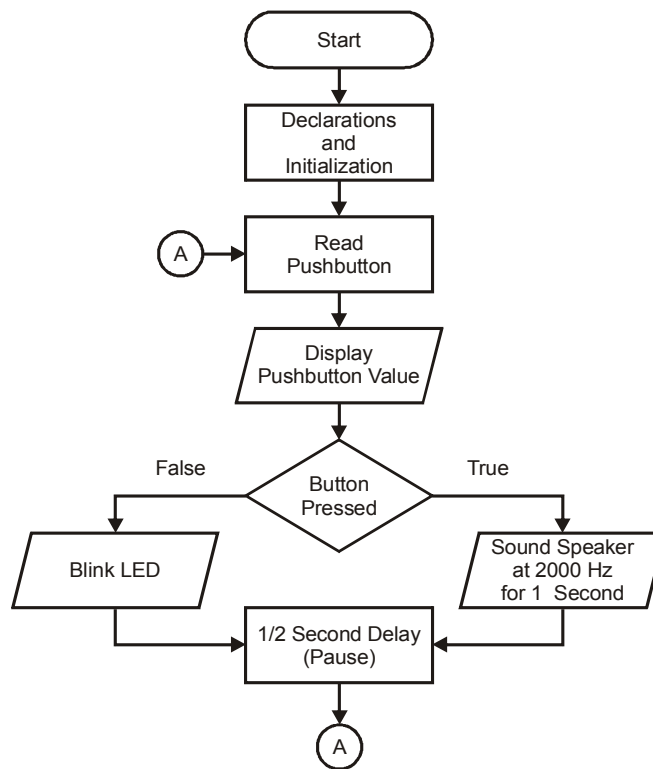

Figure 1-8
- ✓ Figure 1-8 is a flowchart that requires different code depending on whether the button is pressed or not. Modify ConditionalLEDBlink.bs2 to match the flowchart's operation.